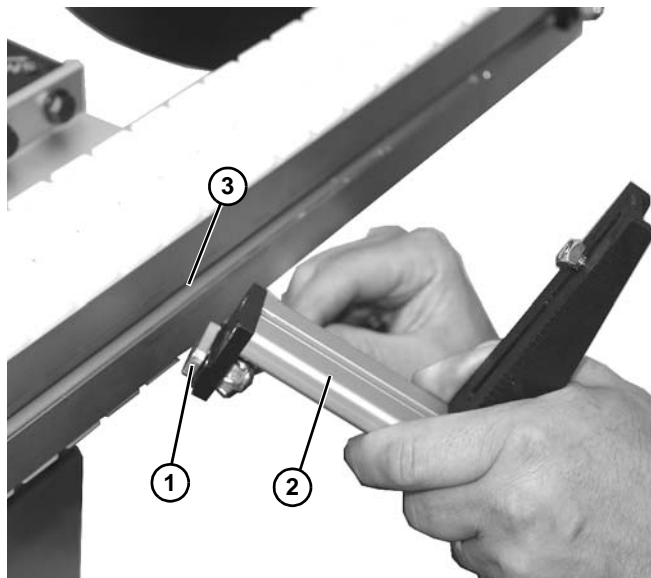

Figure 42
1. Install stud (Figure 42, item 1) on guiding assembly (Figure 42, item 2) into side rail channel (Figure 42, item 3). The end guiding assemblies should be no greater than 12" from end of the conveyor.